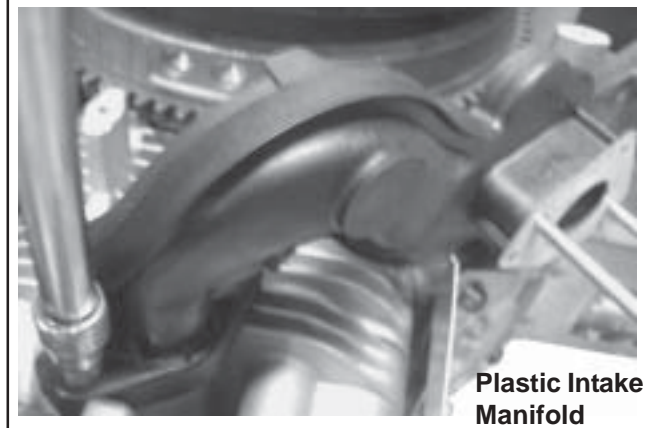

Figure 9-40. Removing Intake Manifold.
2. Remove the intake manifold and the intake manifold gaskets (aluminum intake manifolds) or O-Ring (plastic intake manifolds). See Figure 9-40.